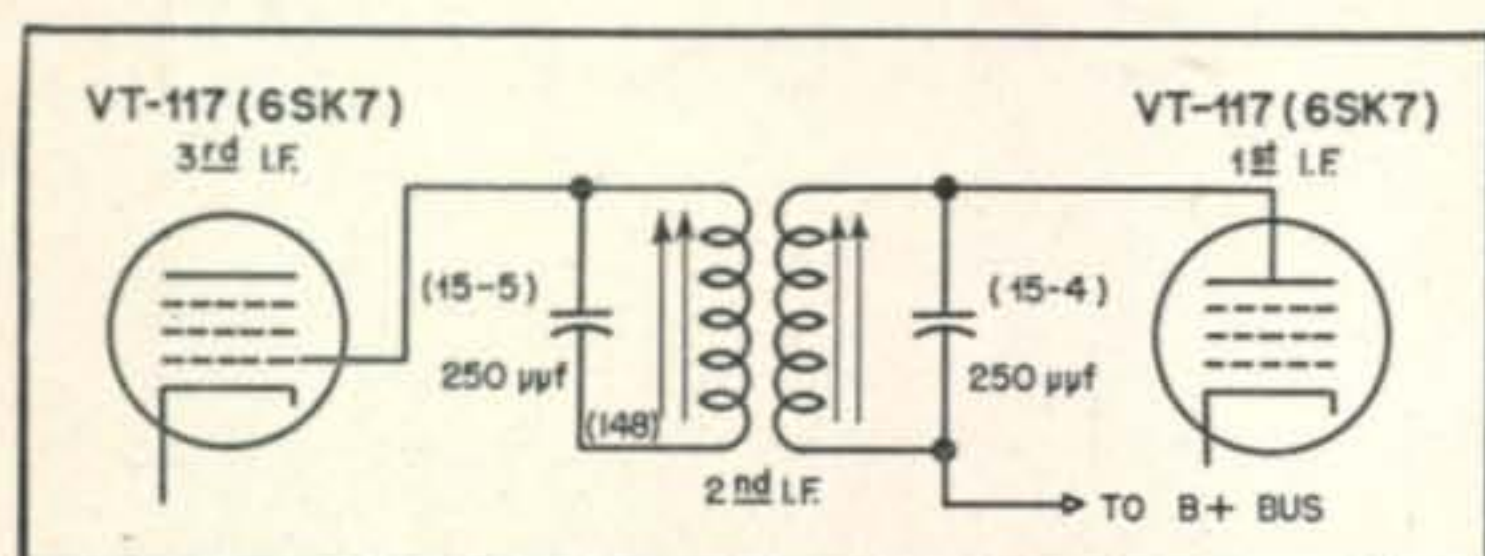

Fig. 1. Circuit changes necessary for removal of the crystal filter.
The next step in the operation is to remove the crystal coil assembly, crystal switch, and the crystal intact. Then make sure the circuit is wired as shown in Fig. 1. Note that the 15,000-ohm resistor (99-1), the coil assembly (150), the 100-μf coupling capacitor (34), the 35,000-ohm resistor (97-3) and the 5000-ohm resistor (101-2) have been removed.